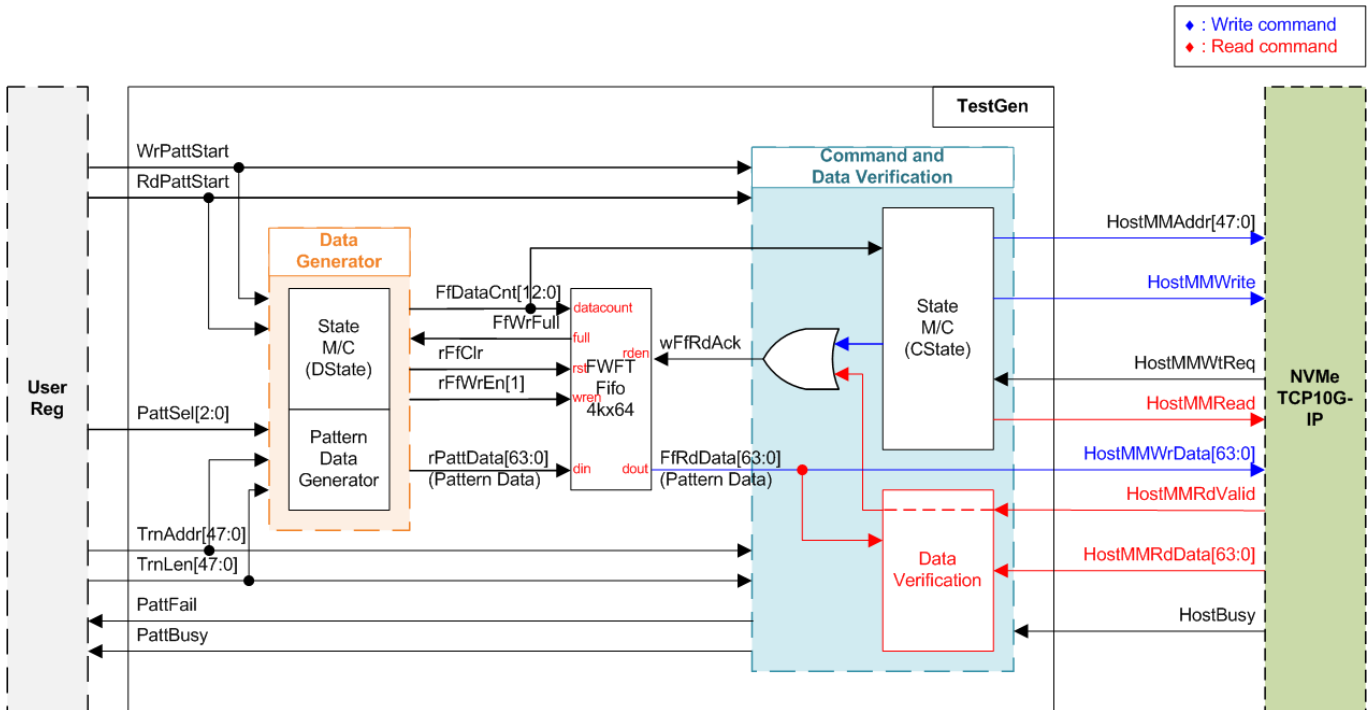

Figure 2-2 TestGen Interface
- (1) stCIdle: This state is designed to wait Write or Read Request (WrPattStart or RdPattStart) from user. When user starts the test along with test parameters, i.e., total transfer size (TrnLen: 512-byte unit), start transfer address (TrnAddr: 512-byte unit), and test pattern (PattSel), the logics load the first value from test parameters. Moreover, PattBusy is asserted to '1' to indicate that the test is running. If user starts the reading test by asserting Read Request (RdPattStart), state continues to stCRdTrn (2). On the other hand, if user starts the writing test by asserting Write Request (WrPattStart), state continues to stCWrWt (3).
- (2) stCRdTrn: In this state, Read Command (HostMMRead) is sent to NVMeTCP10G-IP in HostMM interface along with the start read address (HostMMAddr) of each 4-Kbyte transferring. After sending the last Read Command, state continues to stCWtEnd (6) to wait until all read data is returned and IP finishes the operation.
- (3) stCWrWt: This state is designed to wait until data is enough in FIFO via checking FIFO Data Counter (FfDataCnt). If the data in FIFO is more than or equal to 4 Kbytes (1 burst size), state continues to the next step.
- (4) stCWrTrn: This state is designed to read 4-Kbyte FIFO data and send them out as Write Data (HostMMWrData) to NVMeTCP10G-IP along with the Write Command (HostMMWrite). When write command and write data are received (HostMMWrite='1' and HostMMWtReq='0'), FIFO Read Enable (wFfRdAck) is asserted to read the next data from FIFO. The FIFO Read Data (FfRdData) is bypassed to be HostMMWrData (as shown in Figure 2-2). At the first clock cycle of this state, the first 64-bit Write Data (HostMMWrData), the address (HostMMAddr), and Write Command (HostMMWrite) are sent to the IP. After the 511th of 64-bit Write Data (HostMMWrData) is sent to the IP, state continues to the next step.
- (5) stCWrChkFf: This state is designed to send the last 64-bit Write Data (HostMMWrData) of the current 4-Kbyte transferring. Moreover, state machine checks data amount in FIFO via checking FIFO Data Counter (FfDataCnt) for next 4-Kbyte bursting decision. After the last 64-bit Write Data (HostMMWrData) of the current 4-Kbyte transferring is sent, state exit choices are considered as follows.
- a. If the current 4-Kbyte Write Data is not the last 4 Kbytes of the Write Command and data amount in FIFO is not enough for the next round, state continues to stCWrWt (3) to wait until Data Generator fills more data to the FIFO. This state transition triggers the logics to de-assert Write Command (HostMMWrite) to '0'.
- b. If the current 4-Kbyte Write Data is not the last 4 Kbytes of the Write Command and data amount in FIFO is enough for the next round, state continues to stCWrTrn (4). This state transition allows the logic to start sending the next 4-Kbyte data continuously after finishing transferring current 4-Kbyte data without de-asserting Write Command (HostMMWrite) to '0'.
- c. If the current 4-Kbyte Write Data is the last 4 Kbytes of the Write Command (indicated via rMMLenCnt), state continues to stCWtEnd (6). Also, Write Command (HostMMWrite) is de-asserted to '0' to end the writing test.
- (6) stCWtEnd: This state is designed to wait until the writing or reading test is done. TestGen waits until NVMeTCP10G-IP finishes its internal processes by monitoring the IP busy flag (HostBusy) with Flip Flop. When HostBusy with Flip Flop is '0' in this state, PattBusy is de-asserted to '0' to notify user that the test is done. State returns back to stIdle (1).